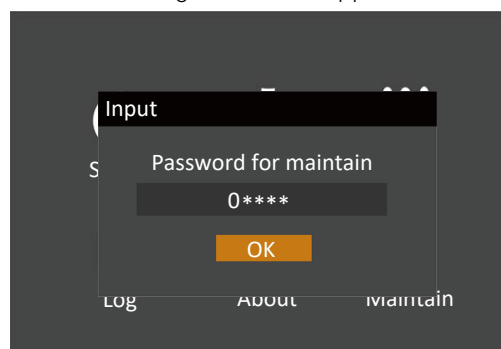

Figure 3-17 Inputting password
2. Press the **Enter** key, the interface shown in Figure 3-17 will appear.